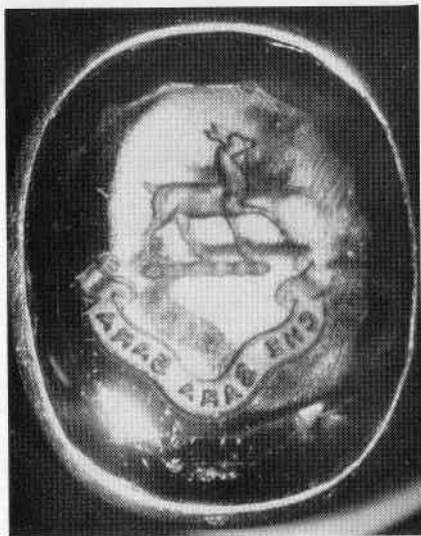

Figure 1
*Figure 1* illustrates an intaglio-carved top, step-cut-back blue sapphire that was submitted because the client felt it was a doublet. The photograph shows the shadow of the figure cast on a plane of rutile needles approximately one millimeter below the surface; otherwise, the stone was free of inclusions.